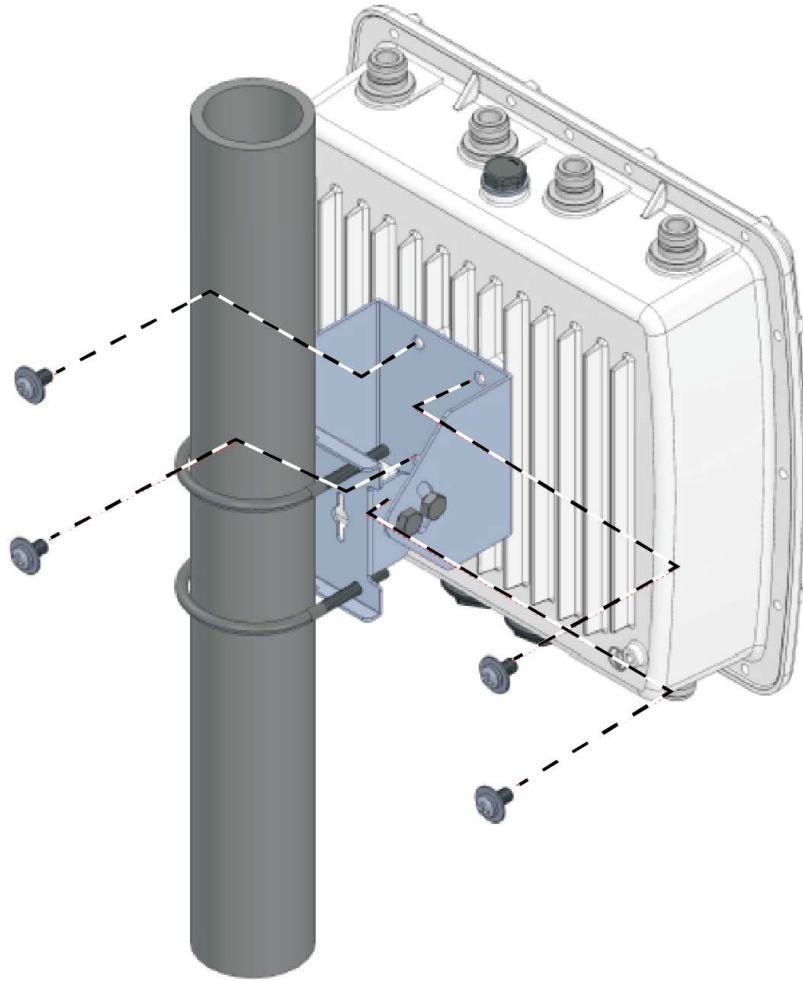

Figure 33. Attaching the Access Point to the Pole-Mount Brackets
3. Attach the access point to the pole-mount bracket with the screws using a Phillips-head screwdriver. See Figure 33 on page 53.